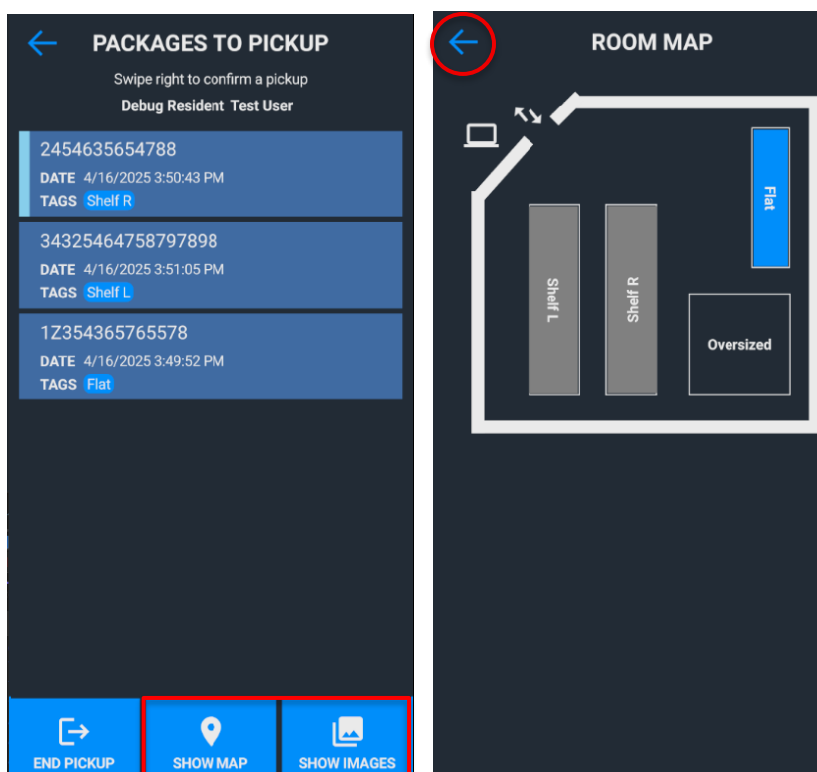

Figure 70: Recipients' package location and Room Map
The Room Map appears with the selected package location highlighted in blue. See Figure 70. Tap the **Back** button to return to the Pickup page.
9. To view an image of the package and display where the package is located on the shelf or an image of the package label, tap **Show Images**. See Figure 70.